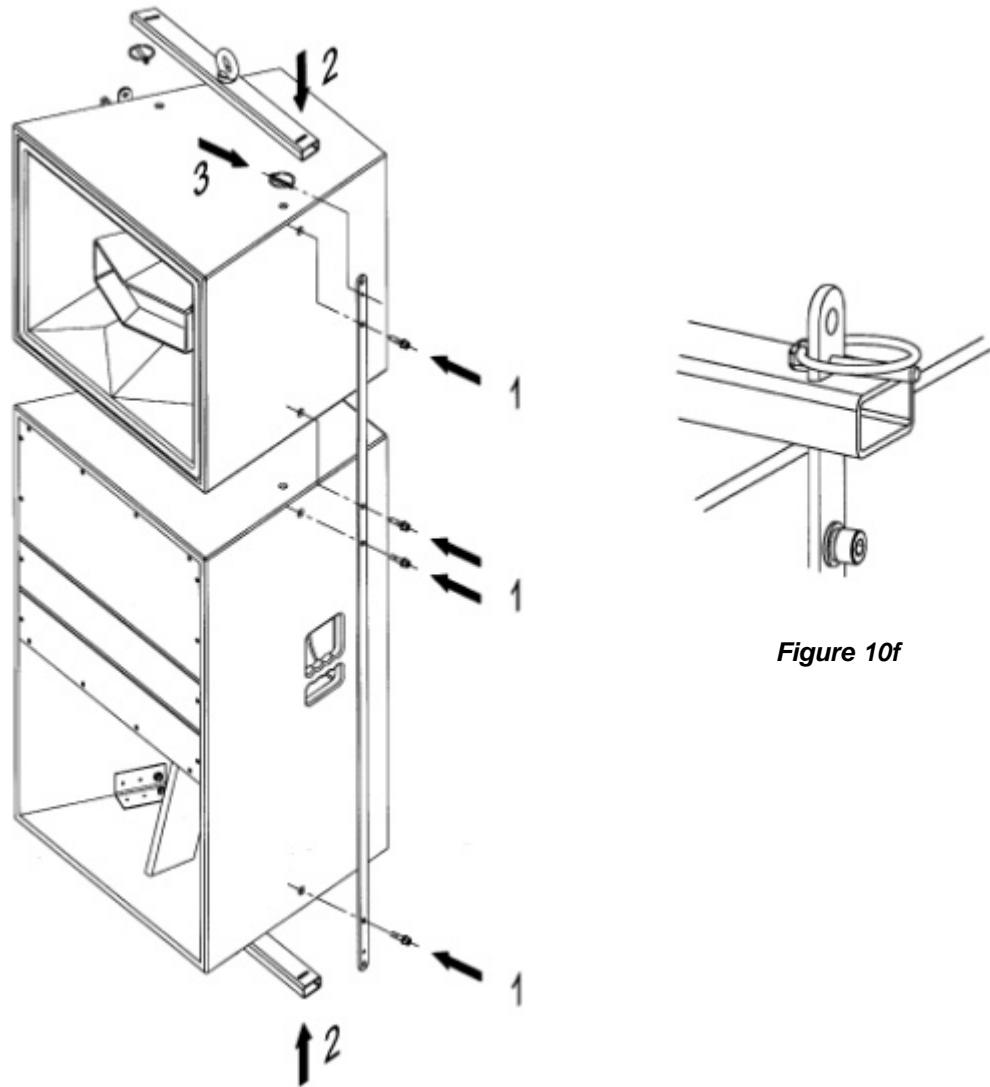

*Figure 10d*
The flown system is assembled as shown in *Figure 10d*. The SR18 side rail kit is screwed to the side of each cabinet using the screws provided (1). The JK1 Jointing Kit is slotted between two SCB Beam Kits for both the top and bottom (2). The combined SCB Beam Kits are placed above and below the speaker (3). The Lynch Pin is inserted into the holes of the side rail kit top and bottom (4) and the Pin folded to secure it in place (*Figure 10c*, page 10).